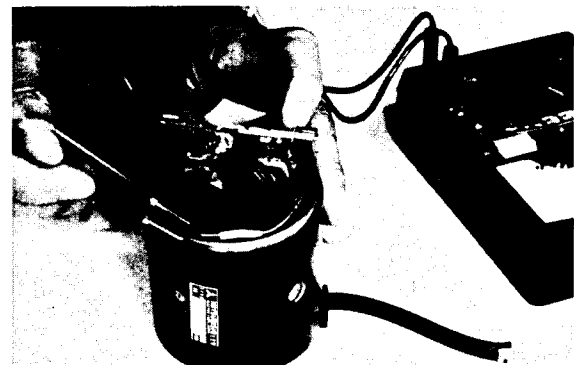

Figure 33
14. Check for continuity between one end of field coil (brush) and yoke (Fig. 33). There should be no continuity. Check for continuity between both ends of coil (brushes). There should be continuity if the field coil is good. Check the poles and coil for tightness.